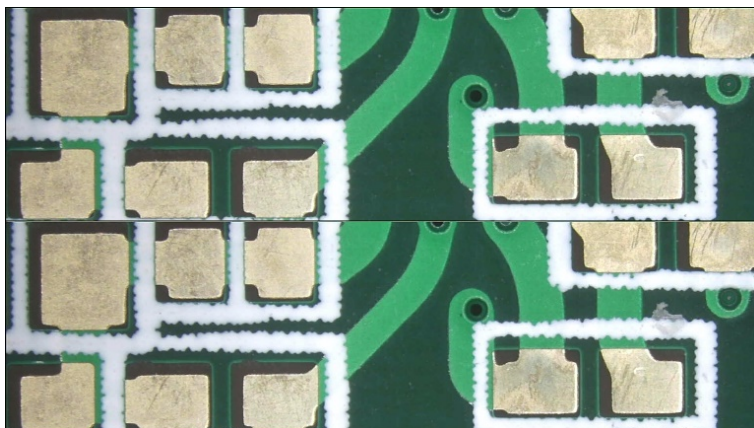

Fig 5-53 Bottom Side Compare mode
- Bottom Side Comparison : Enable/Disable the Bottom Side Compare mode. The loaded image is on Bottom side. Top side image is live preview image. Below Fig 5-53 Transparency: 100%, Image Location: 100%, Offset Ratio: 0%, Image Ratio: 50%.